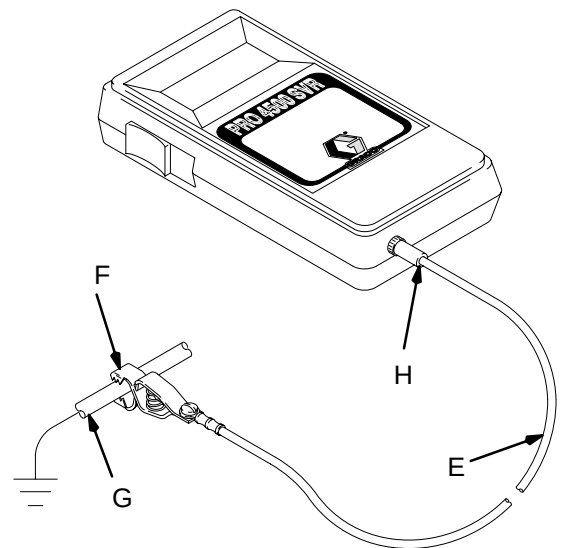

Fig. 3
SVR Ground Cable Assembly 235–078 (See Fig. 3)
2. Connect the ground cable (E) between the SVR and a true earth ground (G) as shown in Fig. 3.